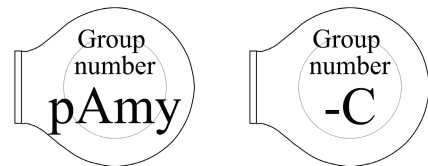

Fig. 5
2. Label 2 micro-centrifuge tubes with your group number. Label one of them "pAmy" and the other one "-C" (for the negative control) (Fig. 5).